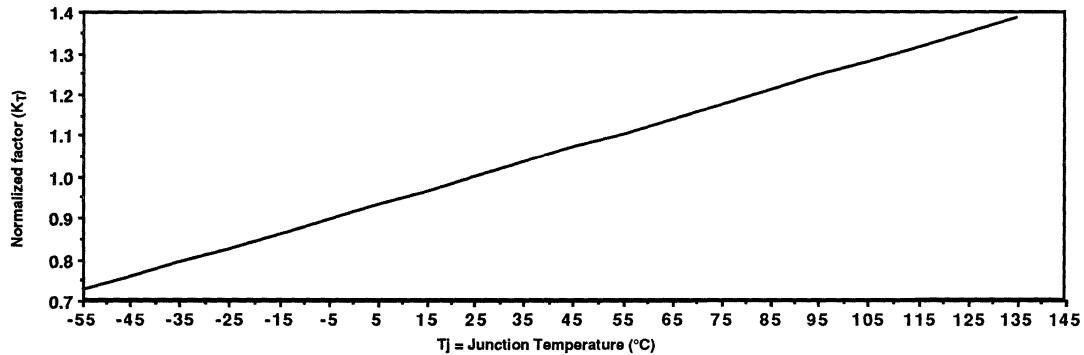

Figure 6: Temperature Derating Factors for AC Characteristics
2.2.2 Figures 6, 7, and Table 6 contain derating factors for various temperatures, voltages, and process variation respectively. To obtain a delay value at conditions other than typical, multiply the derating factors corresponding to those conditions to the current values from the delays in the datasheets, i.e. $K_T \cdot K_V \cdot K_p \cdot T_D$, where T_D can be a delay from the delay characteristics table mentioned in 2.3.12 or a value calculated from the propagation delay equations as mentioned in 2.3.13:
2.3.12.1 K_{PV}K_T are the derating factors for finding delays at conditions other than typical. Use Figures 6 and 7 for these values of K_P, K_V, and K_T. K_{PV} = K_P*K_T.